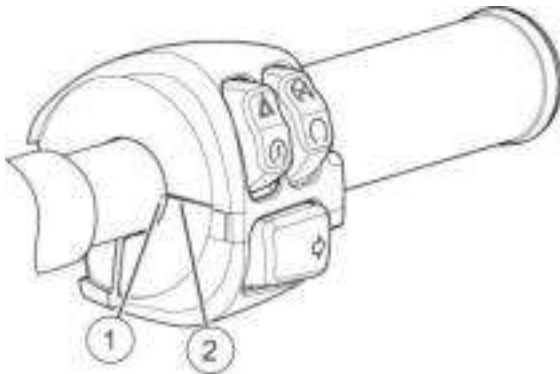

Figure 7-20. Hand Control Module Alignment (Typical)
6. See Figure 7-20. Install upper and lower switch housing. Align seam (2) with alignment mark (1).